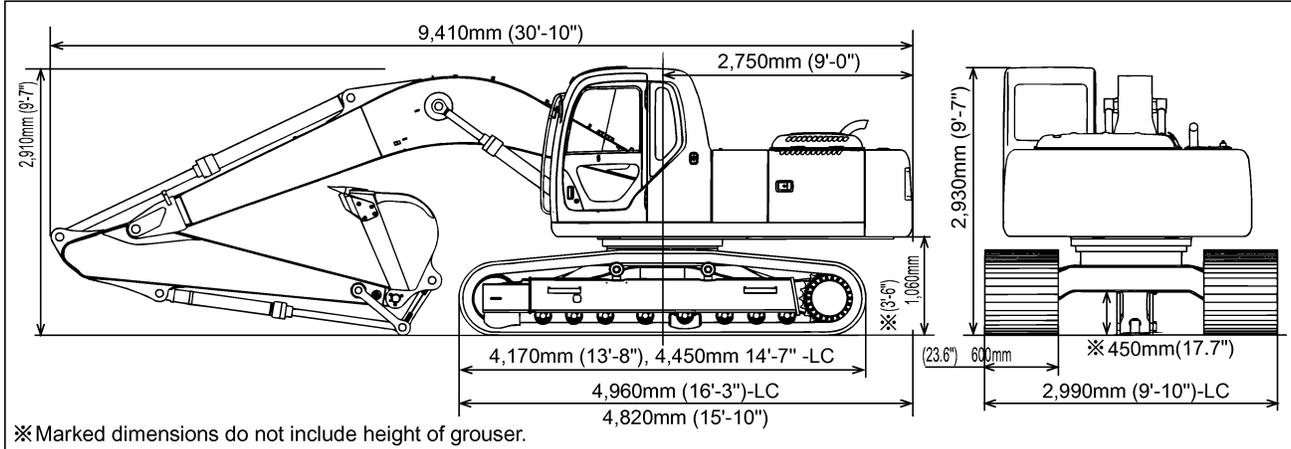

FIGURE 5.10A
1. SK210(LC)-VI - Figure 5-10A & 5-10B
Refer to Figure 5.10A & 5.10B for reference in regards to the machine basic dimensions, as manufactured with standard attachments: